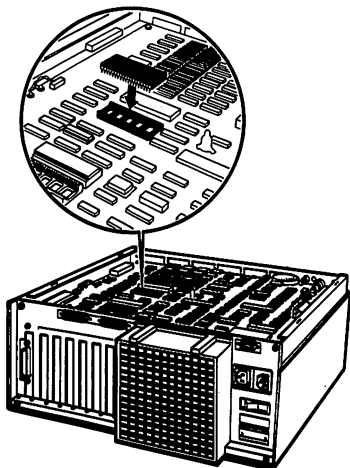

Figure 2-2. Location of 8087 socket.
3. Locate the 8087 socket on the processor board. See Fig. 2-2.